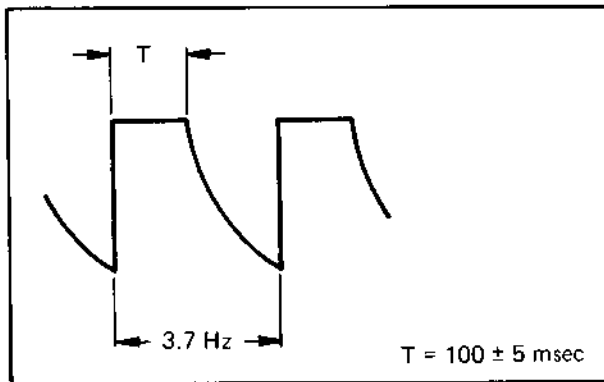

Fig. 6-4 Waveform of capstan sampling position
3. Adjust R66 (CAP. SAMPLE POSITION) for 75 msec positive flat duration for the waveform at TP. 11. See Fig. 6-4.